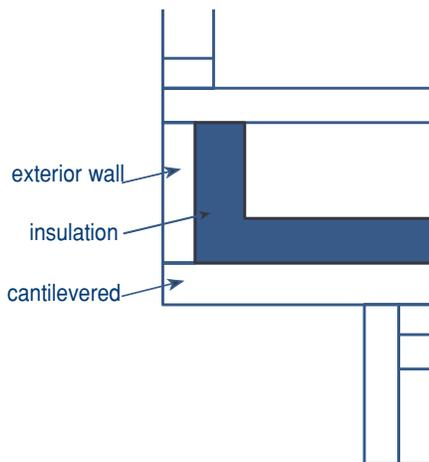

Figure 18: Insulating cantilevered area with batt insulation.
Step 1: Working from outside the house, remove portions of the siding or other covering from the bottom of the cantilevered floor (Figures 18 and 19).